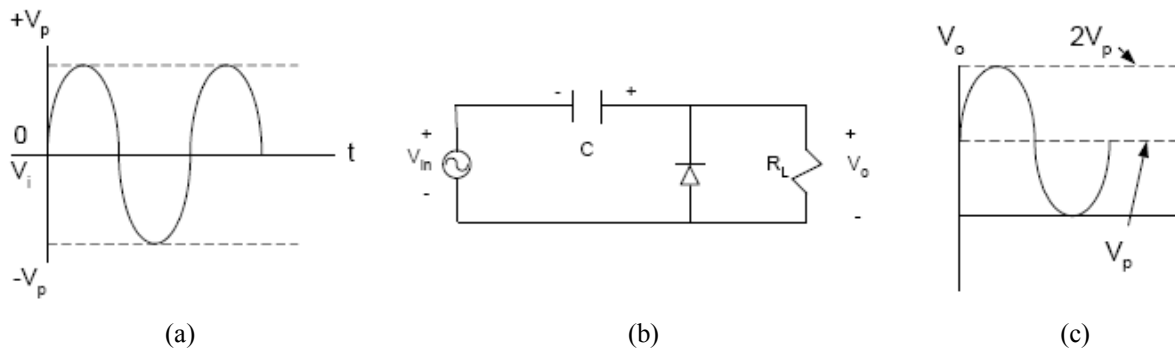
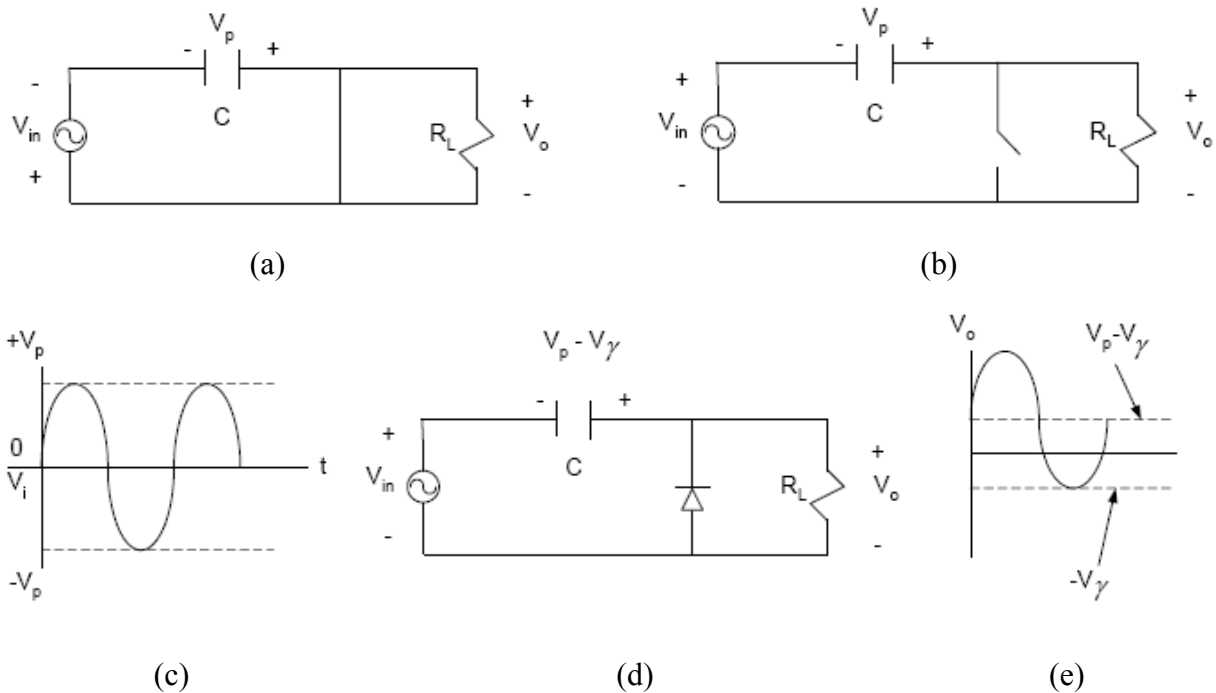
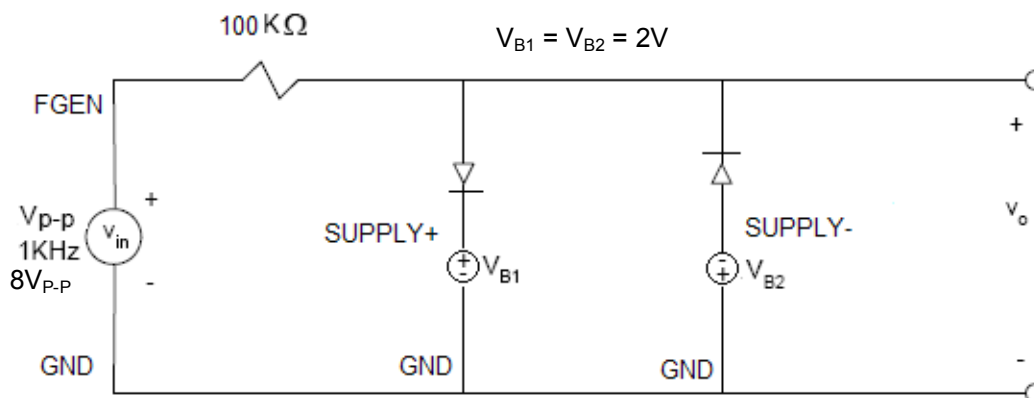

Figure 4.3: Positive dc clamper: (a) Sinusoidal input to positive dc clamper; (b) Positive dc clamper; and (c) Clamped sinusoidal output
Figure 4.4: Positive clamping circuit operation
Figure 4.7: Parallel biased clipping circuit
The circuits to be tested and simulated are several clipper circuits and a clamper circuit. The clippers use a diode, resistor, and voltage source in 8 possible locations and orientations in a circuit. You should be familiar with the basic operation of clipper and clamper circuits as discussed in the text. You should be able to produce the output wave shapes shown for the circuits in Figures 4.1 through 4.7 below. You should simulate the circuits shown below in Figure 4.4(a), Figure 4.5(a), Figure 4.6 and Figure 4.7 using B2 Spice. (Assume  $R_L = 1k\Omega$ ,  $V_{SIN} = 8V_{p-p}$  and  $V_B = 2V$ )
In Figure 4.3(b) a positive dc clamper is shown. The clamper operates as follows: During the negative half-cycle of the input voltage, the diode turns on as illustrated in Figure 4.4(a). At the negative peak, the capacitor charges up to  $V_p$  with the polarity shown and the output voltage is zero. As the voltage grows beyond the negative peak, the diode shuts off as shown in Figure 4.4(b).
Since the diode drops  $V_\gamma$  volts when conducting, the capacitor voltage does not quite reach  $+V_p$  volts. For this reason, the dc clamping is not perfect, and the negative peaks are at  $-V_\gamma$  as shown in Figure 4.4(e).
When the polarity of the diode in Figure 4.3(b) is reversed, the polarity of the capacitor voltage reverses also, and the circuit becomes a negative dc clamper. Ideally, the output voltage consists of the input voltage riding on a dc voltage of  $-V_p$  volts. If the diode is considered non-ideal, then the output will consist of the input signal riding on a dc voltage of  $-(V_p - V_\gamma)$  volts, and the positive peaks will occur at  $V_\gamma$  volts.
It is possible to clip wave forms at two different voltages. The circuit shown in Figure 4.7 clips the waveform ideally at  $V_{B1}$  (SUPPLY+ = 2V) and  $V_{B2}$  (SUPPLY- = -2V). Make an accurate sketch of the input and output voltage waveforms for the circuit in Figure 4.7, noting the peaks of the output waveform and the input voltage at which clipping occurs. What would happen to the output wave shape if either  $V_{B1}$  or  $V_{B2}$  were changed continuously from 1V to 2V?
3. Parallel-Biased Clipper — Build circuit (Figure 4.7)